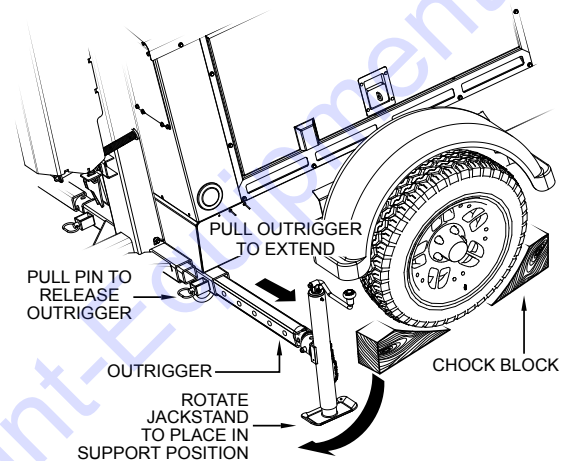

Figure 17. Deploying Outriggers
1. Place light tower on secure level ground with chock blocks (Figure 17) underneath each wheel to prevent the light tower from rolling.
2. Make sure **all** outriggers (Figure 17) are extended. To extend the outriggers, pull the locking pin on the outrigger and hold while sliding out the outrigger assembly.